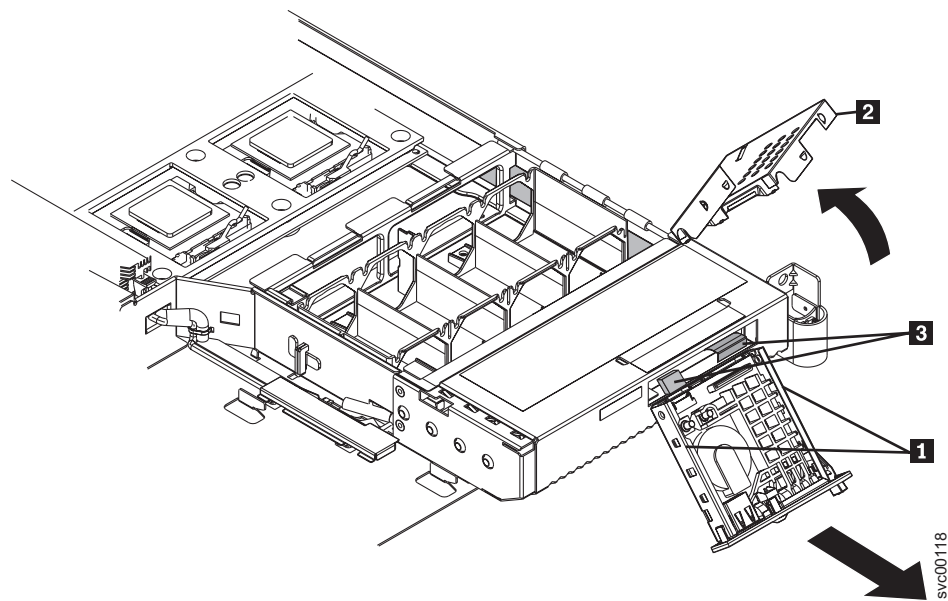

Figure 159. SAN Volume Controller 2145-8F2 with exposed operator-information panel
6. Use a small screwdriver to push in the retention springs (**1** in Figure 159) on the sides of the operator-information panel assembly.
9. Rotate the assembly cover (**2** in Figure 159) up and off of the operator-information panel assembly.
10. Unplug the two cables from the rear of the assembly (**3** in Figure 159).